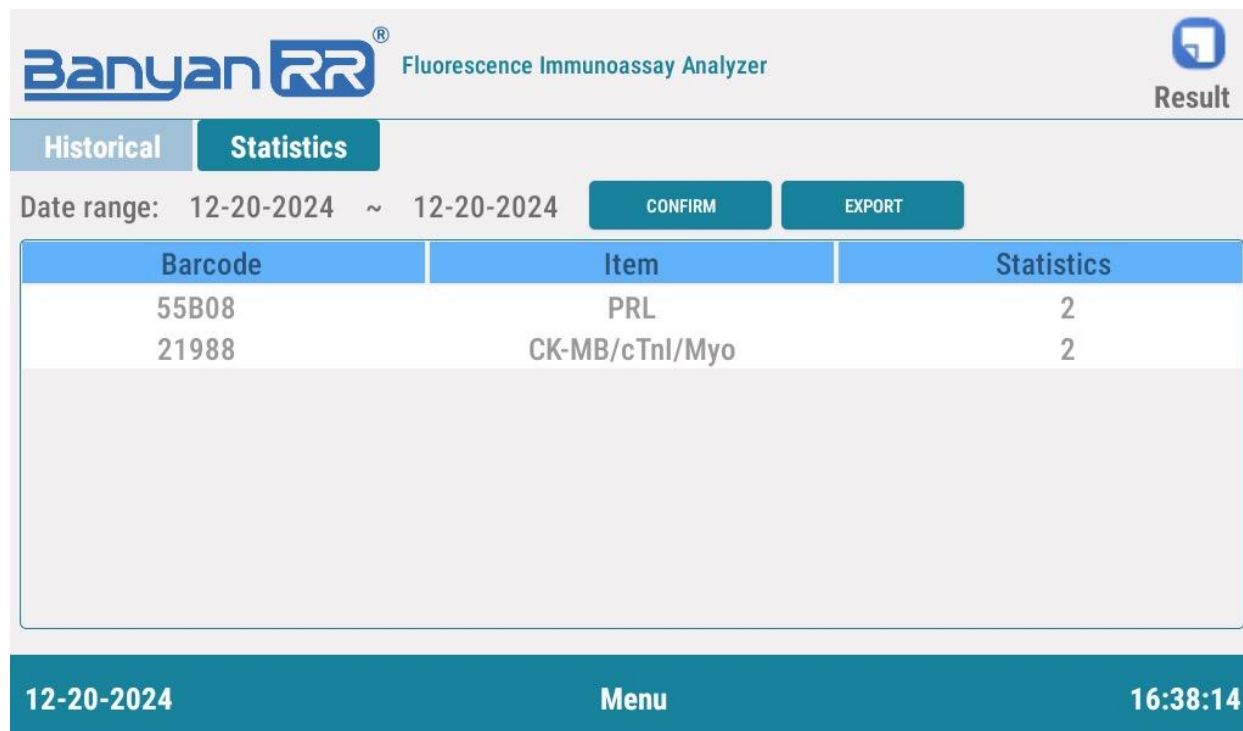

Fig. 4.5
9.Click [Statistics] in Fig. 4.5, select the date range to be viewed, and click [CONFIRM] to view the statistical results.